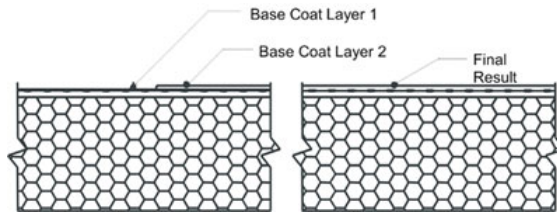

Figure 21
- a. The base coat shall be applied such that the resulting overall minimum base coat thickness is sufficient to **fully embed** the reinforcing mesh. The recommended method is to apply the base coat in two (2) passes.
- 3) Allow the base coat mixture to take up until firm to the touch. Trowel a second tight coat of the base coat mixture over the first coat to **fully cover** the reinforcing mesh - Figure 21. The result should be such that the reinforcing mesh is approximately centered within the base coat thickness. Do not allow the first pass to completely dry prior to the second pass application or an excessive amount of base coat mixture will be necessary to fully coat the wall surface.